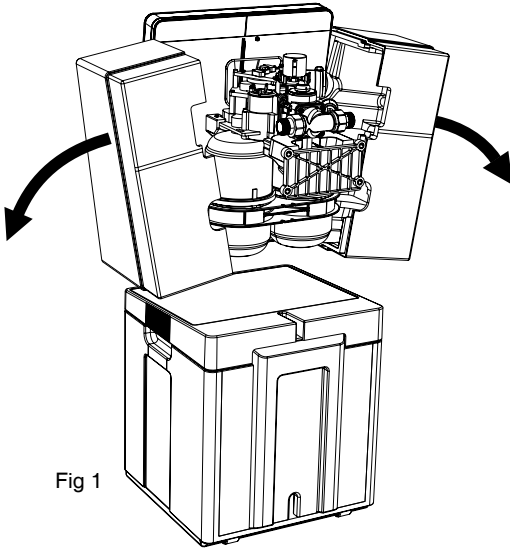

Fig 1
- a) Remove the cover on each side (fig. 1).